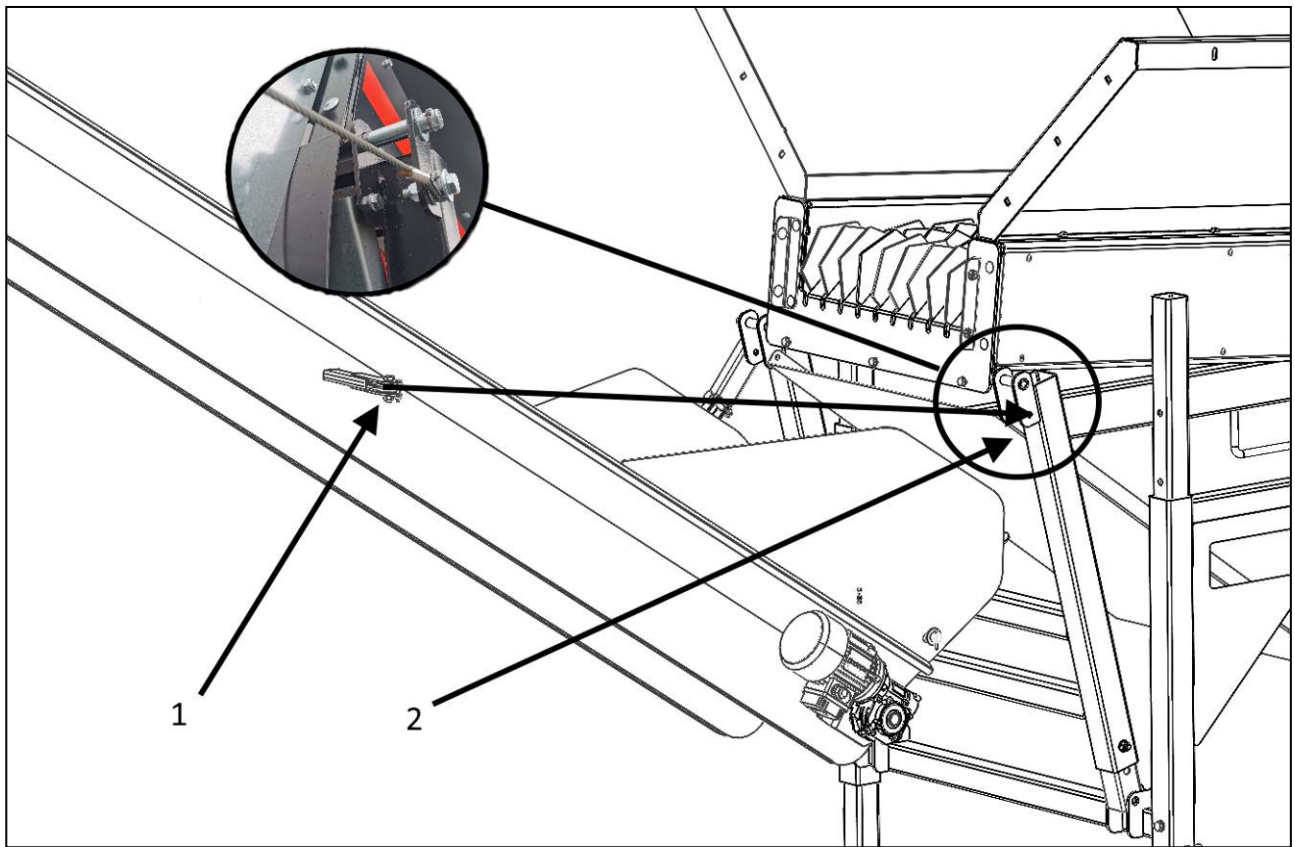

Figure 7
6. Take the wire rope on one side of the conveyor through the corner block (Part 1) and fasten the wire rope link with a screw to the lug on the beam (Part 2, Figure 7).